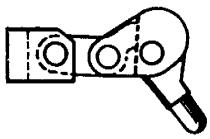
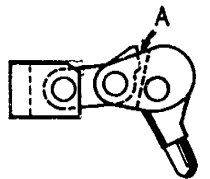

FIG 1
FIG 2
- (g) Check for worn or unevenly adjusted Toggles and Toggle Links. These may have been replaced at some time and were not correctly adjusted to produce even pressure on the clutch plates through the plungers. Examine the links; they should all come into correct closed position at 'A' as shown in Sketch Fig. 1. Should one of the links close up and two remain open as in Fig. 2, then the link that shows correct should be filed slightly at 'A' until all bear equally at this point when closed. If two links show correct and the third open, then both closed ones must be filed slightly until this space is closed by all three toggles. As this is most important when fitting new toggles it is best to order three complete sets of toggle assemblies comprising Parts Numbers M24, M25, M28, M23, M26 and 27. When adjustment is fairly tight, the lever should throw in with a snap and require a sharp pull to disengage the toggles.
Turn drum so that tab 'C' is at top position. See Fig. 3. Pull control lever aft so as to lock drum. Slack off screw 'B', lift tab 'C' out of slot. Tighten ahead clutch by turning clockwise aft portion that carries toggles. Correct adjustment is important. If too tight gear will not remain in ahead. See Fig. 2. If too slack the clutch will slip under load. A notch or two either way will make all the difference. Note the tab is offset and can be reversed for closer adjustment.
Ahead clutch must not be adjusted so tight that toggles will not close up with links at 'A' Fig. 2. Fig. 1 shows correct position with central pin just past dead center and therefore locked in ahead without constant pressure on the control lever and operating collar.